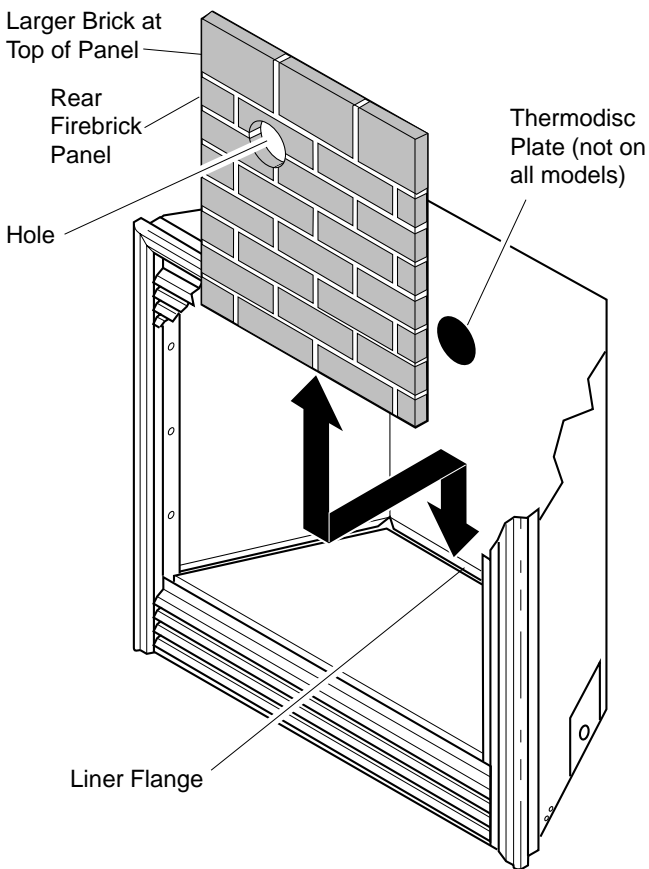

Figure 3 - Placing Rear Firebrick Panel on Flange in Fireplace
- With larger bricks at the top, install rear firebrick panel on back wall first. Rest the bottom edge of firebrick panel on liner flange. Stand firebrick panel straight up against the back of fireplace (see Figure 3).
Note: If your fireplace has a thermodisc plate, make sure you position the hole in rear firebrick panel over the thermodisc plate on rear wall of fireplace (see Figure 3). If you cover the thermodisc plate with the firebrick panel, the fan will not run properly.